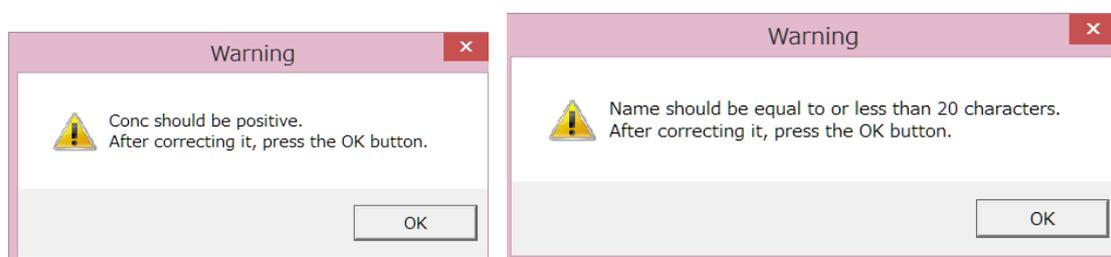

Figure 6 --- Warning message boxes
- When you press the OK button, although a new value of Conc is not positive or numerical, the left message of Fig. 6 will appear. If a newly typed Name consists of more than 20 characters, the right message of Fig. 6 will appear. You must close the Signals Info window after correcting the illegal input.